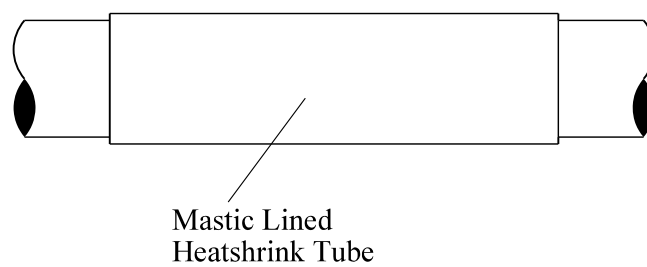

Fig 3.
7. Shrink down the mastic lined heat shrink tube over the '88' tape. – Fig 3.